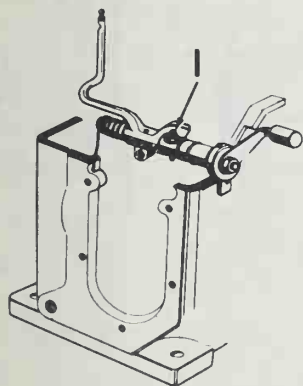
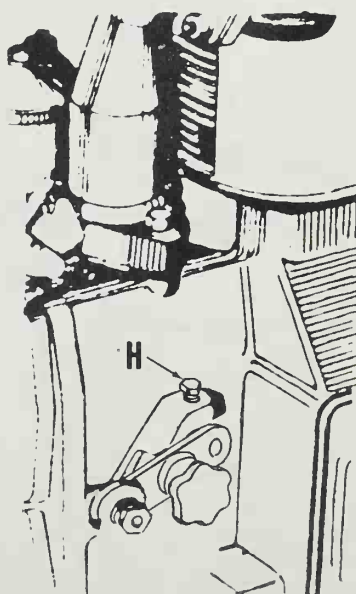

Fig. KR1-1—Remove cover (C) for access to idle speed screw (I) on governor. Refer to text.
Fig. KR1-2—High speed on variable speed engines is adjusted by turning adjusting screw (H).
To adjust idle speed, remove cover (C—Fig. KR1-1), loosen locknut, then turn idle speed screw (I). Idle speed should be 1200-1250 rpm. Do not turn out screw (I) too far as it must remain in contact with lug on governor arm so engine can be stopped. Maximum speed on variable speed models is adjusted by turning high speed adjusting screw (H—Fig. KR1-2). Maximum governed speed under load should be 1500, 2000, 2500 or 3000 rpm depending on engine model.